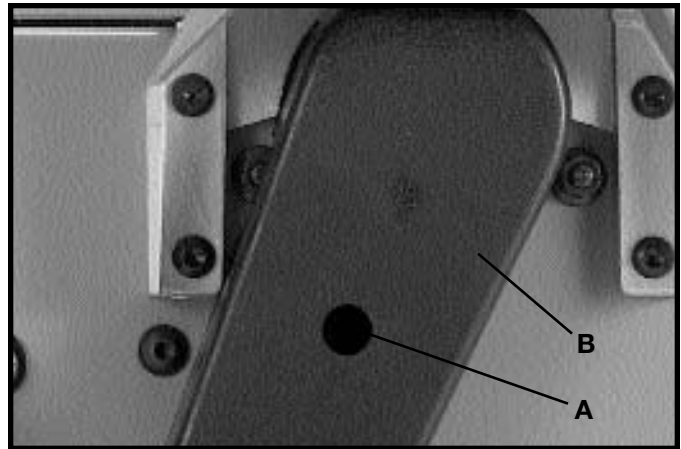

Fig. 43
2. Remove screw (A) Fig. 43, using Allen wrench supplied, and remove belt guard (B).